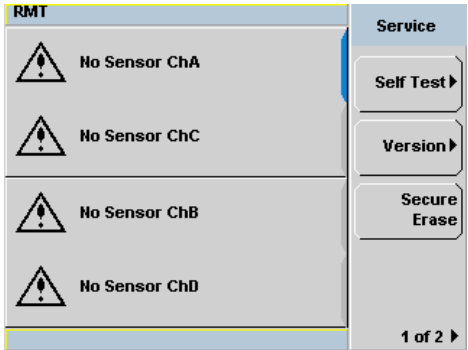

Figure 2-57 Secure Erase
- 1 Press , **1 of 2** and select **Service**. In the **Service** menu, select **Secure Erase** (see Figure 2-57).